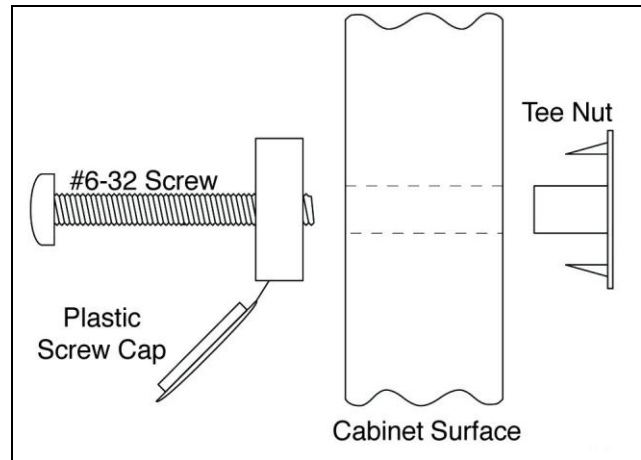

Figure 4. Screw and Tee Nut Attachment.
2. Mark the (4) mounting holes and the cutout area on the cabinet surface.
3. Drill (4) 1/16" pilot holes for the cutout area, and cut out the area for the mixer head.
4. Using a #20 drill, drill (4) 0.161" mounting holes.
5. From inside the cabinet, insert the (4) tee nuts into the (4) mounting holes. See Figure 4.
10. Slide a screw cap onto each of the (4) screws. See Figure 4.
11. With the (4) screws, secure the mixer head, the bezel, and mounting shelf to the cabinet surface. See Figures 4 and 5.
12. Tighten the (4) screws and snap the screw caps over the screw heads.
2. Mark the (4) mounting holes and the (2) holes for the gas hoses.
3. Using a #20 drill, drill (4) 0.161" mounting holes.
4. Drill the (2) 3/4" holes for the gas hoses.
7. Slide a screw cap onto each of the (4) screws. See Figure 4.
9. Align the mounting plate with the (4) holes. The hose barbs should extend into the cabinet surface.
11. Secure the mounting plate with the (4) screws.
2. Mark the (4) mounting holes.
4. From inside the cabinet, insert the (4) tee nuts into the (4) mounting holes. See Figure 4.
6. Slide a screw cap onto each of the (4) screws. See Figure 4.
8. Align the mounting plate with the (4) holes, and secure with the (4) screws.
9. Tighten the (4) screws and snap the screw caps over the screw heads.
3. Drill the (2) 3/8" mounting holes.
4. Slide a screw cap onto each of the (4) short screws, as in Figure 4.
6. Align the mounting plate of the bag tee/scavenging control valve assembly to the front of the mounting bracket. Secure with the (4) screws.
7. Tighten the (4) screws and snap the screw caps over the screw heads.
8. Align the back of the mounting bracket with the (2) holes on the cabinet surface, and secure with the (2) 2-1/4" bolts.